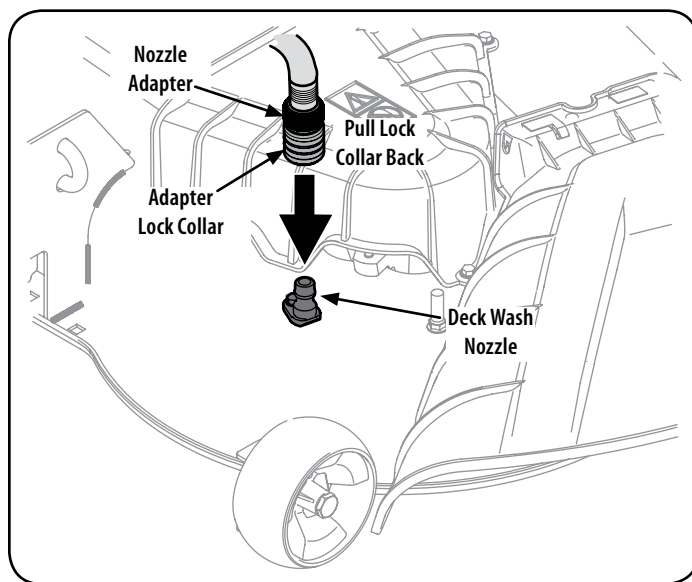

Figure 19
3. Pull back the lock collar of the nozzle adapter and push the nozzle adapter onto one of the deck wash nozzles at either end of the tractor deck. Release the lock collar to lock the nozzle adapter on the deck wash nozzle. See Figure 19.